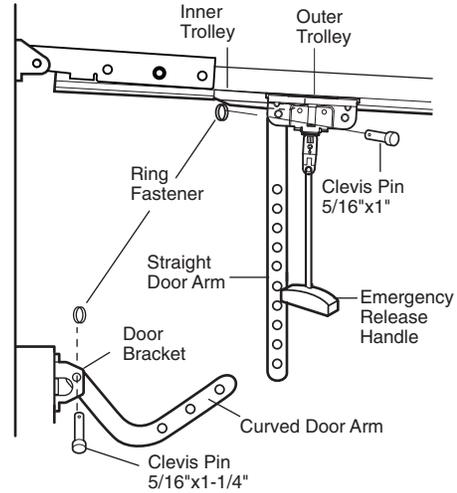

Figure 1
- Mark and drill 5/16" left and right fastening holes. Secure the bracket as shown in Figure 1 if there is vertical reinforcement.
- Make sure garage door is fully closed. Pull the emergency release handle to disconnect the outer trolley. Slide the outer trolley back (away from the door) about 2" (5 cm) as shown in Figures 1, 2 and 3.
- **Figure 1:**